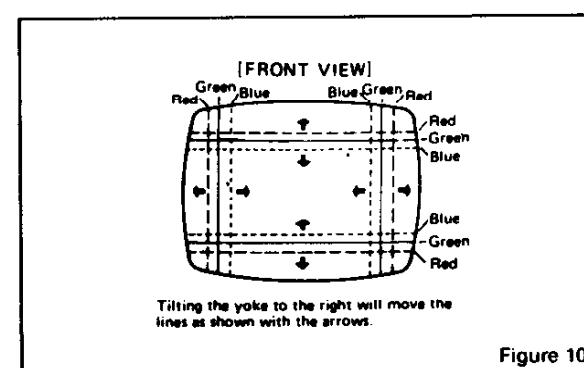

Figure 10
### PRECISE ADJUSTMENT OF DYNAMIC CONVERGENCE (See Fig. 10 and 11)
2. Insert the temporary wedge and fix Deflection Yoke so as to obtain the best circumference convergence (See Fig. 10 and 11).
- 1) Tilting the angle of the yoke up and down adjusts the crossover of both vertical and horizontal red and blue lines. See Fig. 10 (a) and (b).